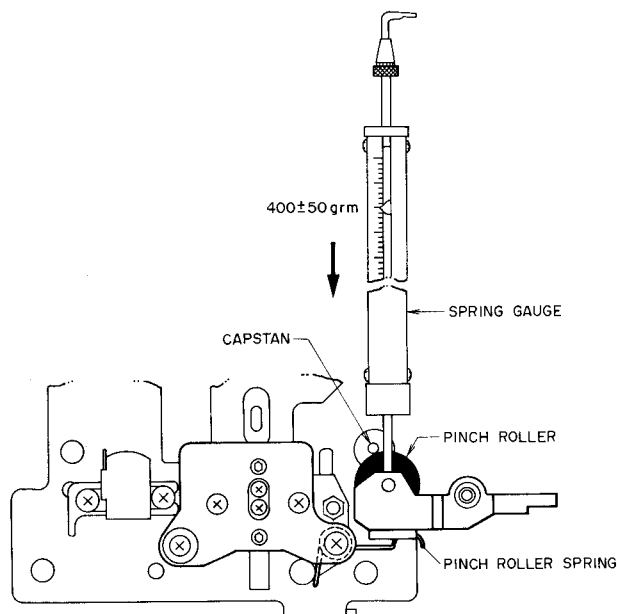

Fig. 6 Pinch Roller Pressure Measurement
2. PINCH ROLLER PRESSURE MEASUREMENT (Refer to Fig. 6)